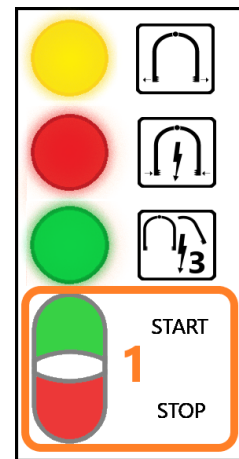

Fig. 6 VBE-M
2. After about 10 seconds, turn on the **VBE-M** using the **START** button (**Fig. 6 pos. 1**) - the device will automatically enter the *readiness for operation mode*;